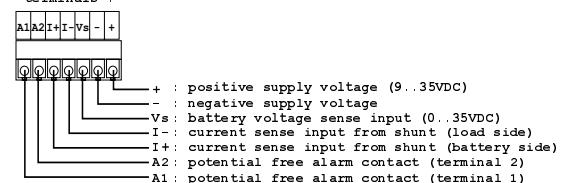

Figure 2
- 4.) When all connections are made and double checked on the battery system side, the battery monitor unit can be connected to the other end of the cable. When cutting the cable make sure you always leave some excess cable length to enable the battery monitor to be pulled out of the mounting hole afterwards. The wire connections to the battery monitor terminal block must be made according to figure 2. Use a small 2mm flat-blade terminal screwdriver or a small phillips head screwdriver to tighten the terminal block screws. To avoid damage, do not apply too much torque to the small terminal block screws. It is advisable to provide some form of a strain relief on the battery monitor cable to avoid mechanical stress on the terminal block. When the battery monitor connections are made and double checked, the monitor unit can be mounted into the 52mm hole that was made earlier. Be carefull not to overtighten the four mounting screws to avoid damage to the BMV501 frontpanel. Do not use an electrical screwdriver for this purpose.